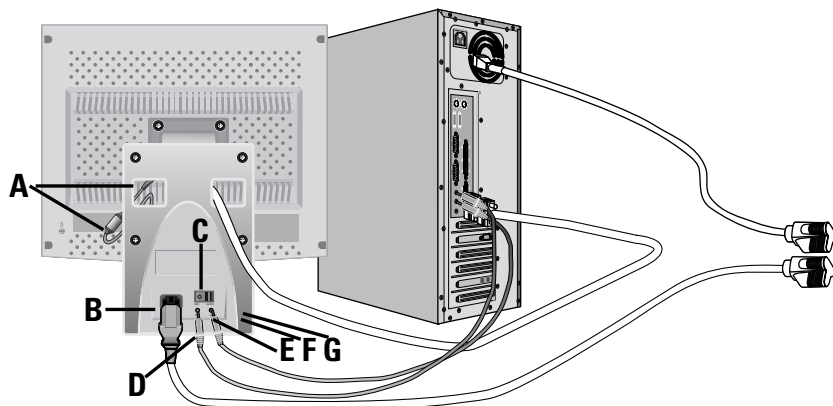

Figure 4. Multimedia connections
- 2 If you have a Multimedia or Multimedia Pivot stand, connect the attached power adapter jack (A) to the DC power port on the back of your monitor. Connect the power cord to the power port on the back of the stand.
- 3 Follow the directions that came with your sound card or your computer to connect the speakers and microphone on the stand. See Figure 4, above and Table 1, below.